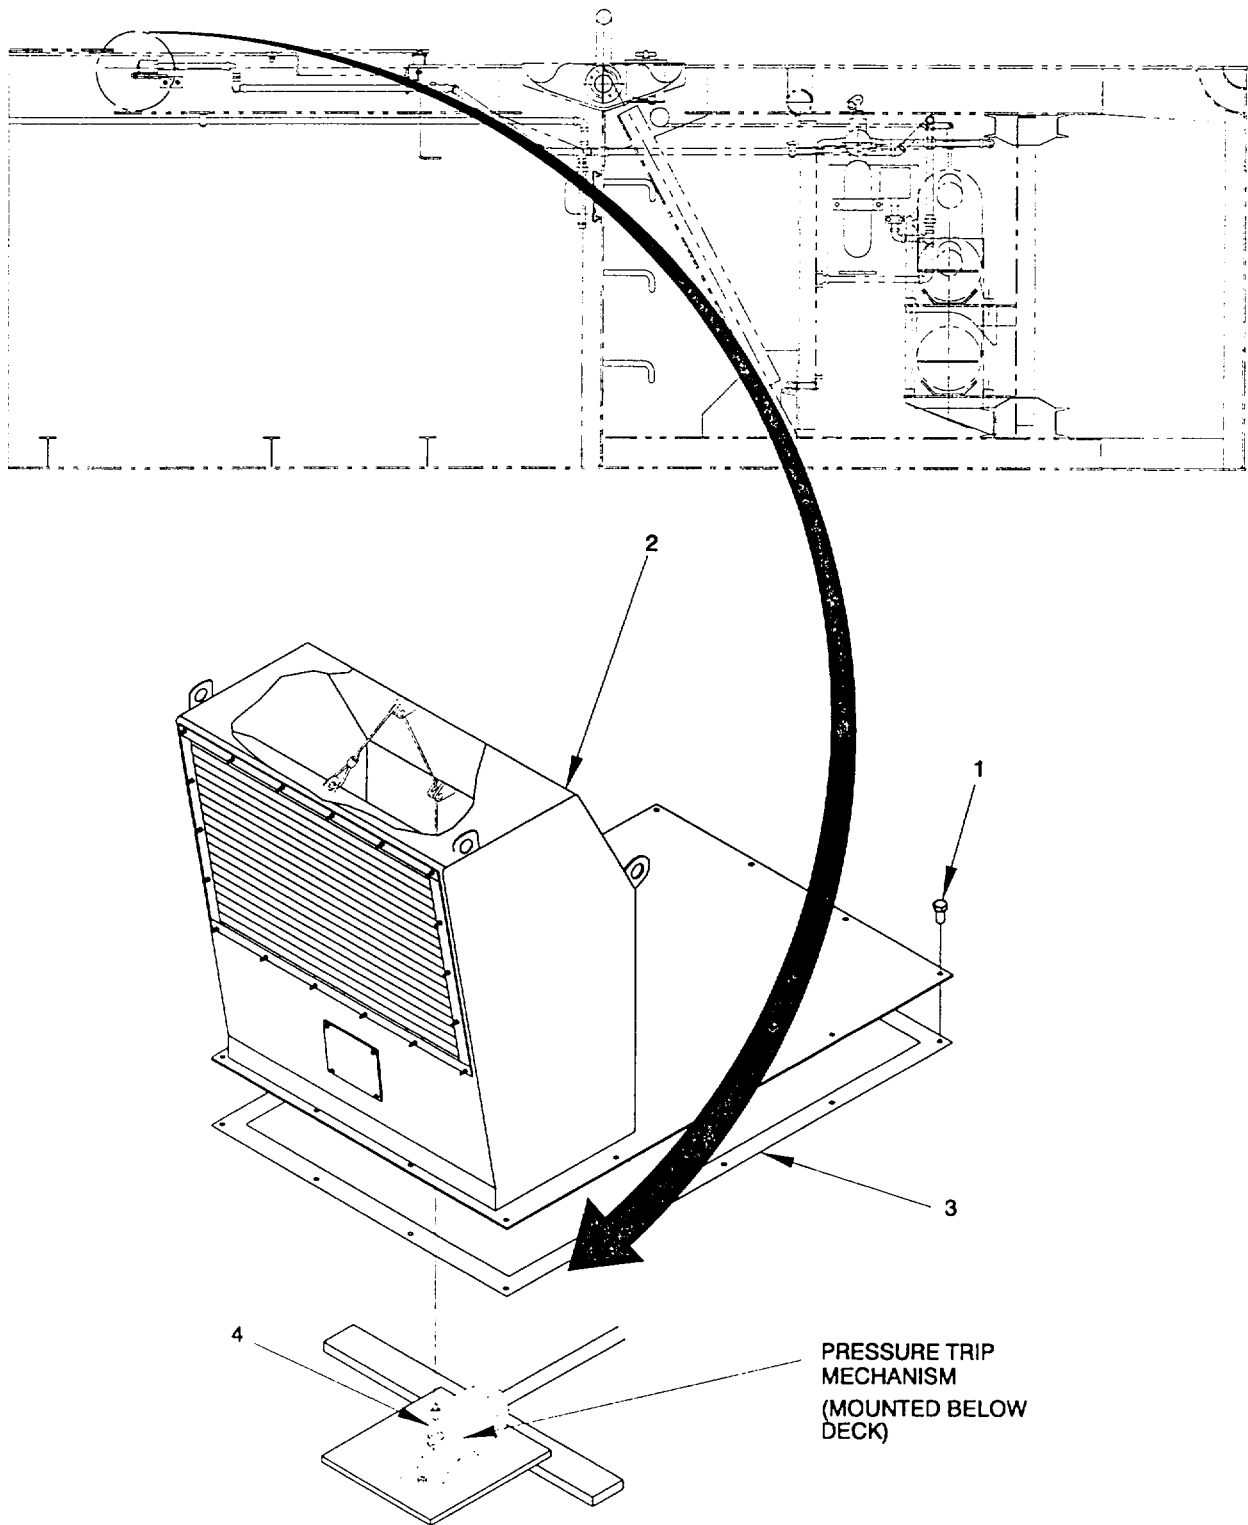

Figure 2-160. Intake Plenum Assembly, Remove/Install.
- a. *Remove.* (figure 2-160)
- (1) Disconnect wire rope (4) at pressure trip unit below deck in the lazaret compartment.
- (2) Remove fourteen hex head capscrews (1) securing intake plenum (2). Remove intake plenum (2) and gasket (3).
- b. *Install.* (figure 2-160)
- (1) Position gasket (3) and new intake plenum (2). Secure intake plenum (2) with fourteen hex head capscrews (1).